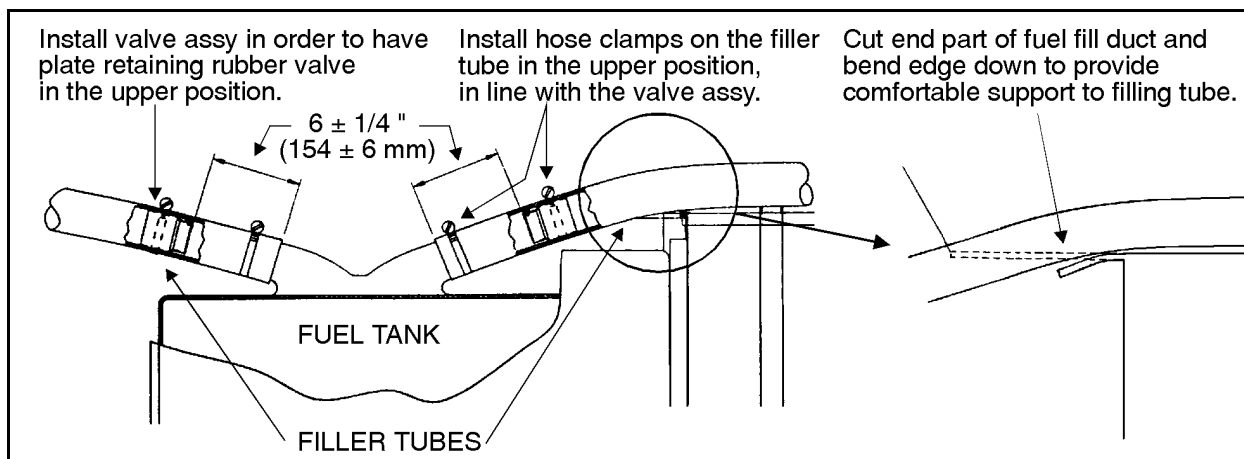

FIGURE 2: FUEL TANK AND FILLER TUBES
1. Cut and bend L.H. side fuel fill duct as on figure 2.
2. Insert check valve assembly (Prévost #032088) in right side filler hose (Prévost #031852) (Fig. 2), fasten it with hose clamp (Prévost #504562). Repeat with left side filler hose (Prévost #032042).